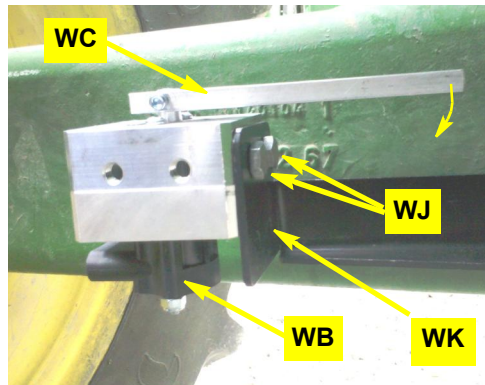

Figure 2b: WAS assembly installed
- b. Using hardware **WJ** install the WAS assembly from step 1 on bracket **WK** (use the top holes of **WK**). Have the wire connector **WB** on the bottom, pointing outward. Connector arm **WC**'s working arc will be toward the rear of the machine (Figure 2b).